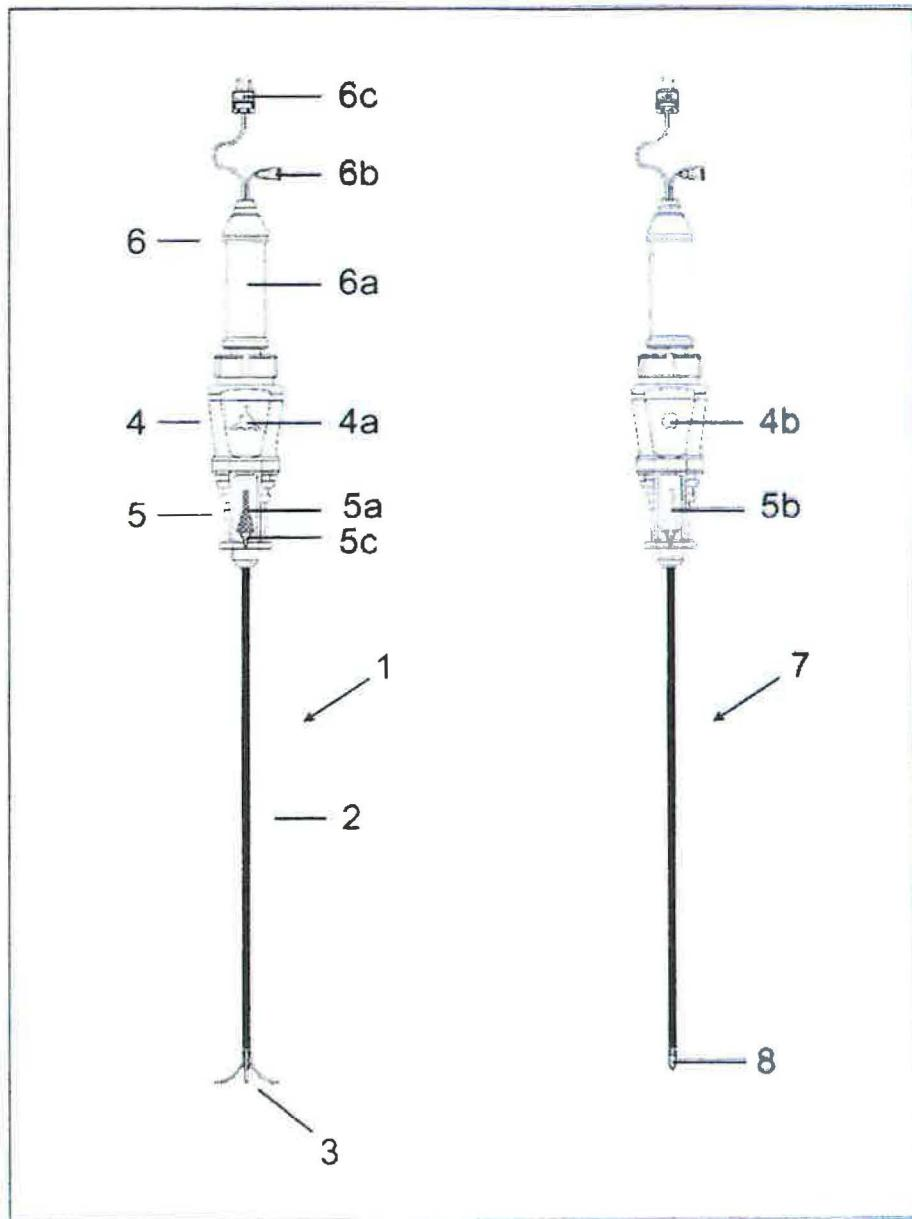

Figure 1 OWL Single Use Trident™ Hybrid RF Insulated Cannula model DTRH
The Trident™ Hybrid RF Cannula Model DTRH, shown in Figure 1, differs from the standard Trident™ RF Insulated Cannula Model DTR in the following two important respects:
- The Trident™ Hybrid RF Insulated Cannula has an RF Probe/Temperature Sensor permanently installed inside it, with the probe tip containing the temperature sensor positioned within the cannula bevel for reliable temperature monitoring. The Trident™ Hybrid RF Insulated Cannula has a Fluid Injection Port (Fig. 1, 6b). This eliminates the need to remove a stylet (no stylet is needed at all, see Fig. 1) for access to fluid injection and possibly causing inadvertent dislodging of cannula tip position.